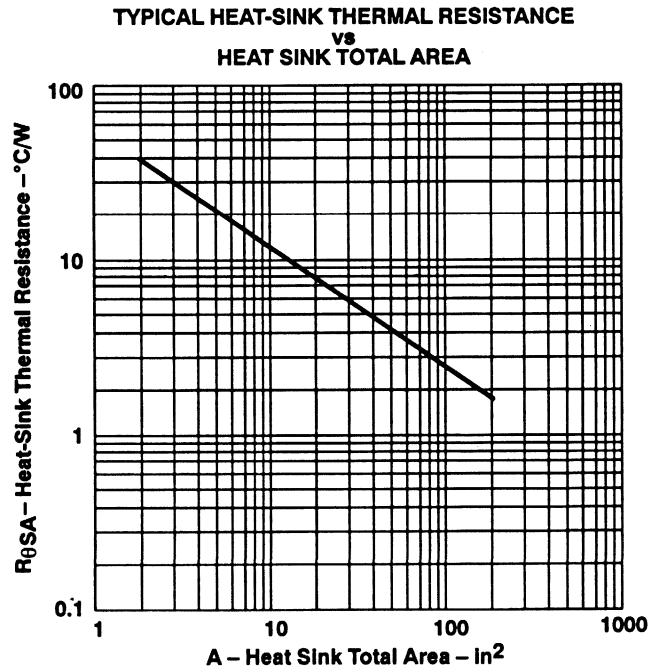

Figure 4
If the $R_{\theta SA}$ calculated is less than 35°C/W, an external heat sink is required. The size heat sink necessary to achieve the required $R_{\theta SA}$ can be determined from Figure 4 or from a heat-sink catalog.
From Figure 4, the heat sink total area (both sides) is $A = 50 \text{ in}^2$. Using this number for the area, the heat sink dimensions, length = width = 1, can be determined using equation (3).